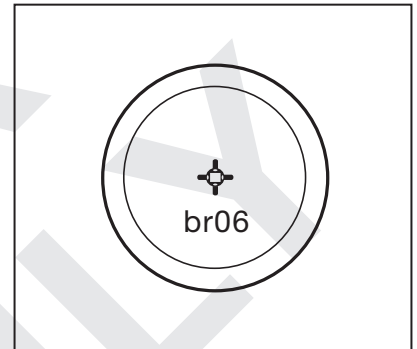

Figure 11
1. Tap  or press the  soft key. The display should look similar to Figure 11. The factory default setting is "br06"